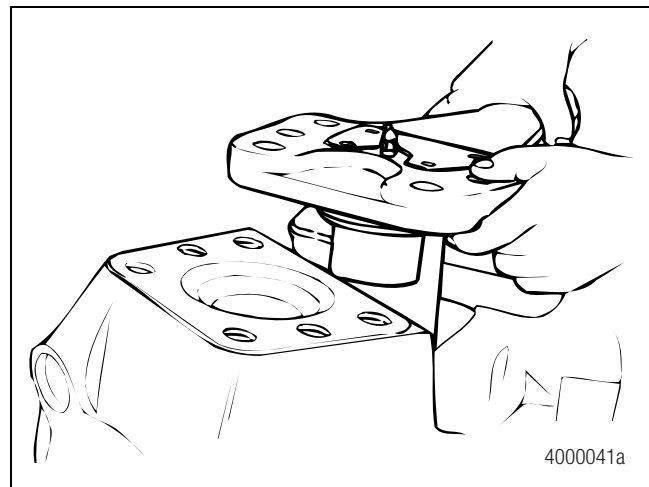

Figure 3.20
4. Remove the air chamber mounting bracket. Remove the upper knuckle cap from the bore. Figure 3.20. Inspect the cap for wear and damage. Replace damaged or worn parts.